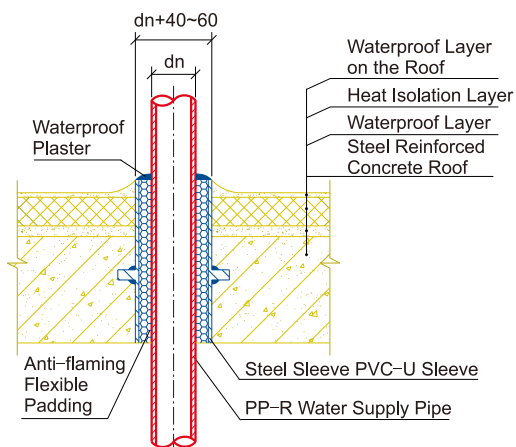

Fig.13 Pipe Crosses Ground Unit: mm
- 3.5** Lay the pipe under the concrete floor and cross the floor when introduce the pipe in the house from outside. The construction details have been showed in figure 13.